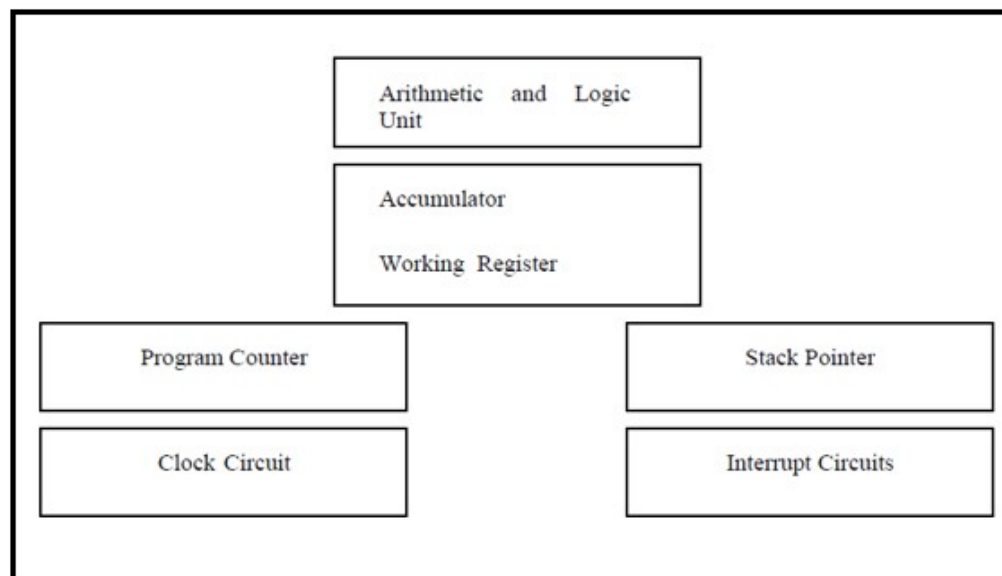

Fig 1.2 Block diagram of CPU of a microprocessor
- Block diagram of a Microprocessor CPU which contains ALU; Program counter (PC), a stack pointer (SP), some working registers, clock timing circuit and interrupt circuit is shown in the following figure 1.2.